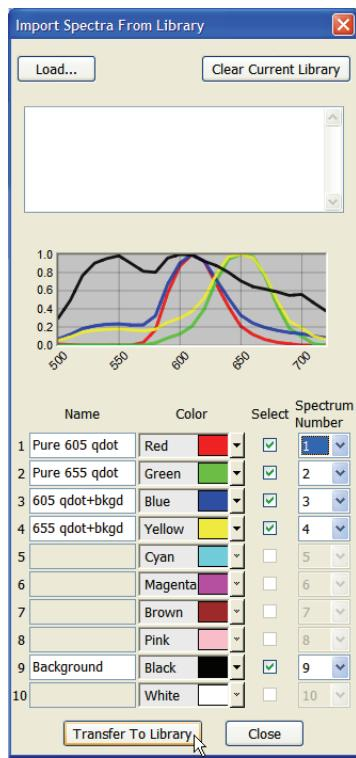

Figure 15. Import Spectra
3. The **Import Spectra From Library** dialog box (Figure 15) opens with the spectrum used to unmix the cube into that component.
3. The **Import Spectra From Library** dialog box (Figure 15) opens with all the spectra used to unmix the cube.